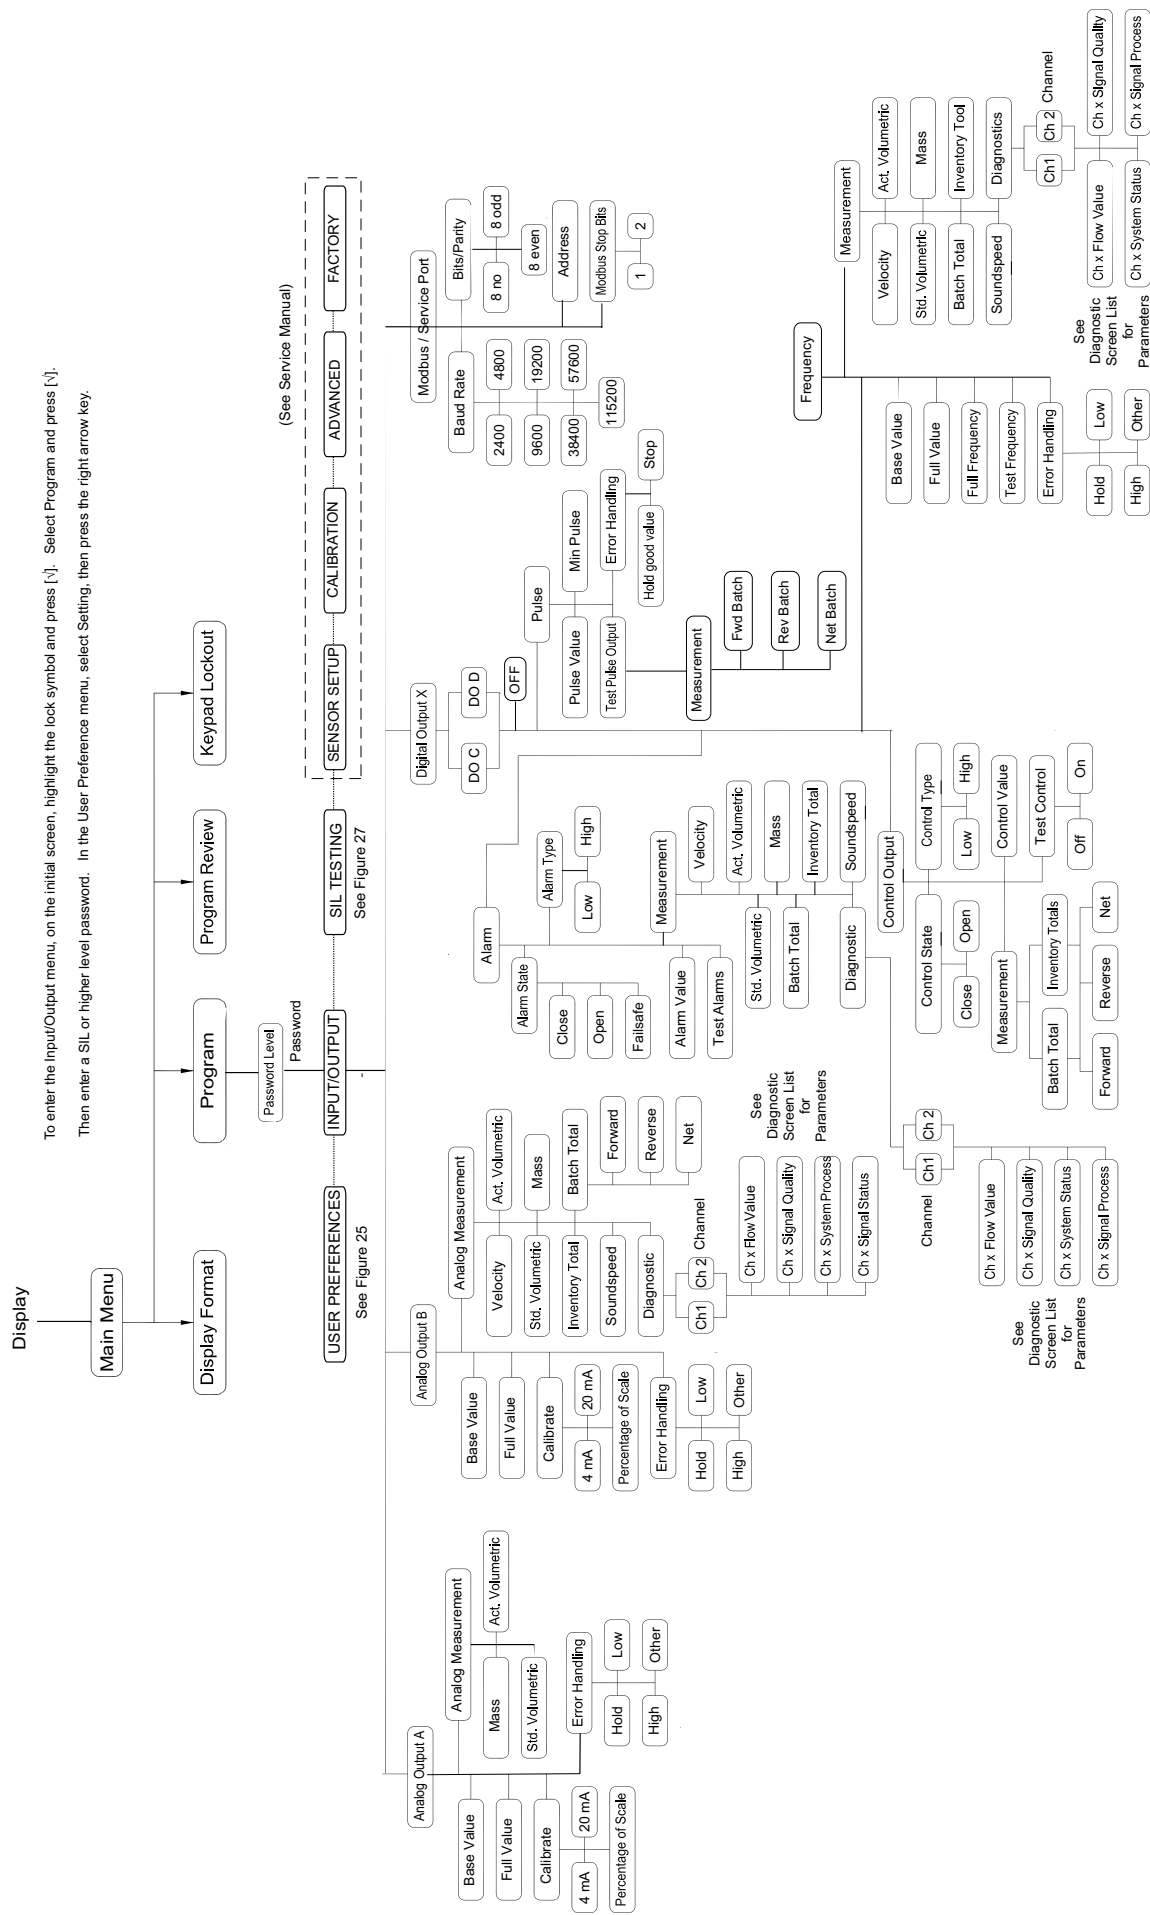

Figure 32: Input / Output Menu Map
- Figure 32, “Input / Output Menu Map,” on page 94